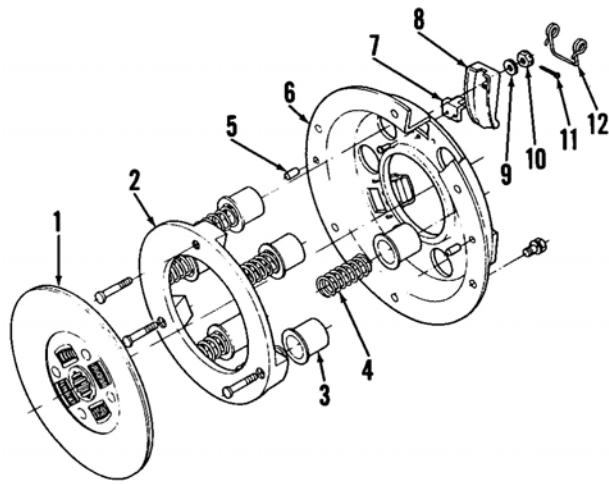
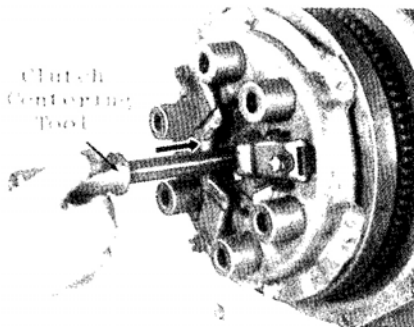
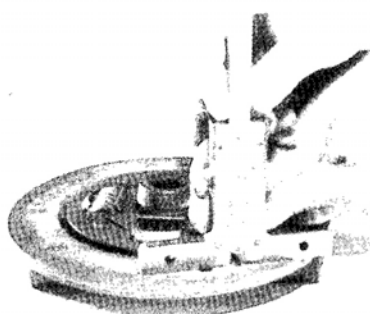

Fig. 41—Exploded view of clutch assembly used on all models.
Fig. 42—Install clutch centering tool as shown.
Fig. 44—View showing procedure for measuring clutch disc wear. Refer to text.
**53. REMOVE AND REINSTALL.** To remove clutch assembly for service, first split tractor between engine and clutch housing as outlined in paragraph 52. Insert clutch centering tool into clutch disc as shown in Fig. 42. Remove cap screws securing cover (6—Fig. 41) and pressure plate (2) assembly to flywheel, then withdraw pressure plate assembly. Remove clutch centering tool along with clutch disc (1).
Reinstall clutch assembly in reverse order of removal. Align clutch disc to engine crankshaft pilot bearing hole using clutch centering tool as shown in Fig. 42, then securely tighten cap screws mounting pressure plate assembly to flywheel.
Allowable difference between release lever heights is 0-0.3 mm (0-0.012 inch). Check lever heights by installing clutch centering tool (2—Fig. 43) along with measuring tool (3), then using feeler gage (G), measure clearance between release lever (1) and measuring tool (3). Adjust release lever height by removing cotter key (11—Fig. 41) and turning castle nut (10).
**54. OVERHAUL.** Remove clutch assembly as outlined in paragraph 53. Remove cotter keys (11—Fig. 41), then exercising caution, remove castle nuts (10). Complete disassembly with reference to Fig. 41. Cover (6) and pressure plate (2) are renewable only as parts of the complete assembly.
Measure clutch disc wear using a suitable depth gage as shown in Fig. 44. Renew clutch disc if distance from clutch disc surface to top of rivet head is not at least 0.1 mm (0.004 inch). Inspect pressure plate (2—Fig. 41) surface for cracks, scoring, heat discoloration and excessive wear. Surface grind or renew as needed. Inspect springs (4) for cracks, weakness, warpage and any other damage. Inspect all other parts for excessive wear or any other damage. Renew all parts as needed.